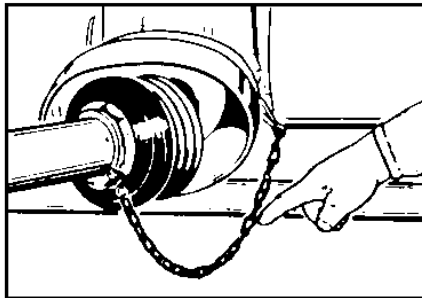

Fig. 22: Safety chain on the PTO shaft
6. Hook the PTO shaft safety chains to a stationary part on the tractor and on the CLS (see Fig. 22).